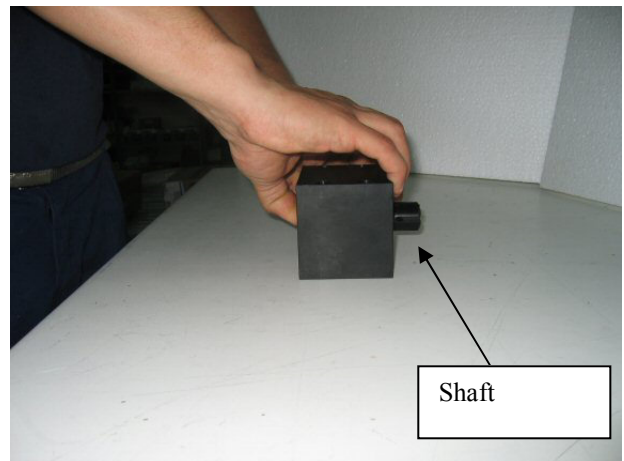

Fig. 17 – Extracting top ERS (Valve) shaft
- 18) Extract the small rod of the valve pushing out it strongly.(Fig.17);